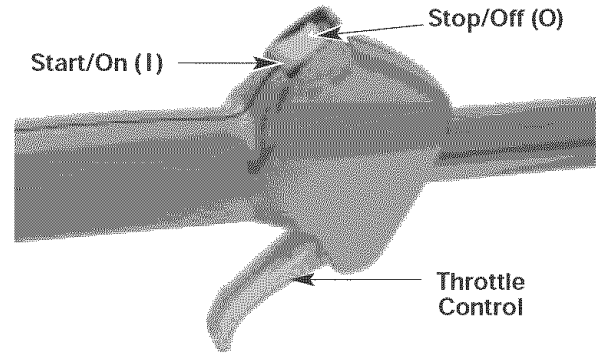

Fig. 6
2. Make sure the On/Off Stop Control is in the **ON [I]** position (Fig. 6).
2. Put the On/Off Stop Control in the OFF (O) position (Fig. 6).